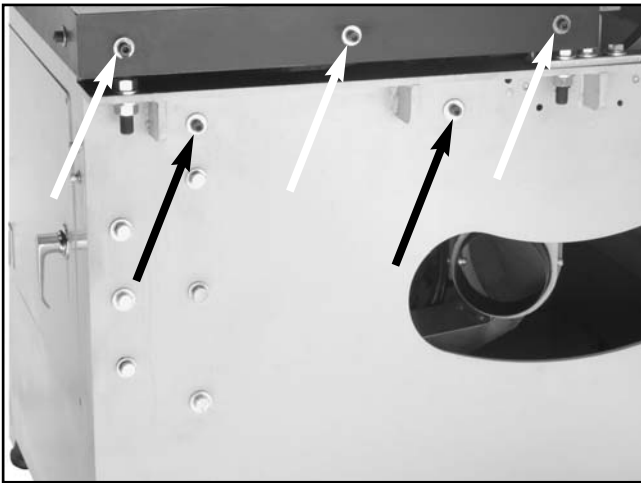

Figure 38. Hardware location for small table.
- Remove the three cap screws, lock washers and flat washers from the side of the table (**Figure 38**, white arrows) and remove the two cap screws from the motor cabinet (**Figure 38**, black arrows).